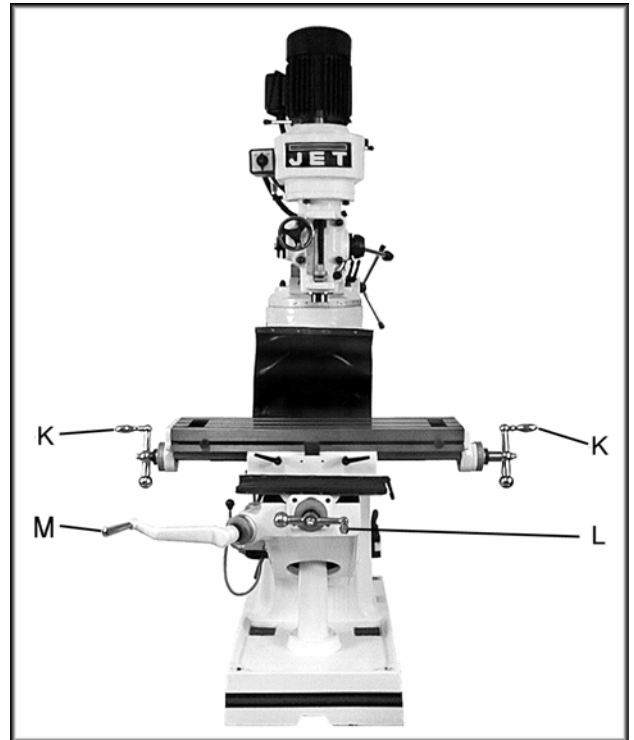

Fig. 6
- K. **Longitudinal Movement** (K, Fig. 6) handles located on opposite ends of the table. This controls the X axis.
- L. **Cross Movement** (L, Fig. 6) handle located directly in front of the machine. This controls the Y axis.
- M. **Knee Handle** (M, Fig. 6) this raises the table up and down.